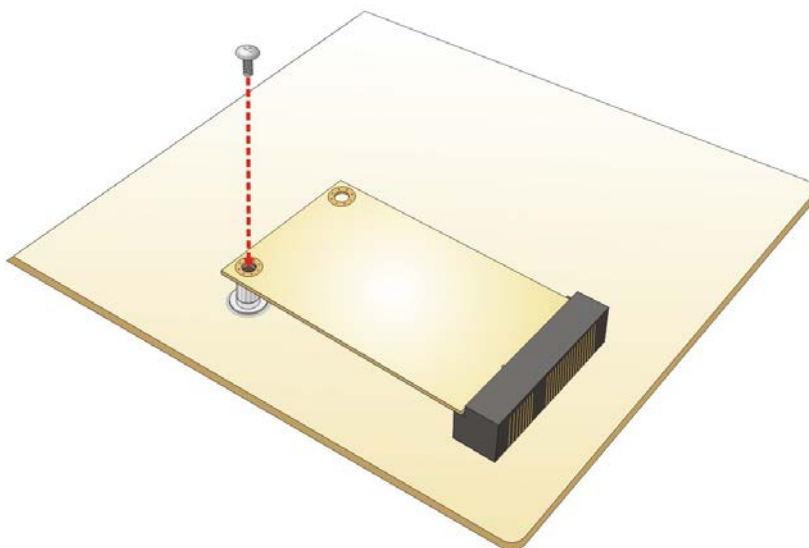

Figure 4-9: Securing the Full-size PCIe Mini Card
Step 4: **Secure the full-size PCIe Mini card.** Secure the full-size PCIe Mini card with the retention screw previously removed (**Figure 4-9**).